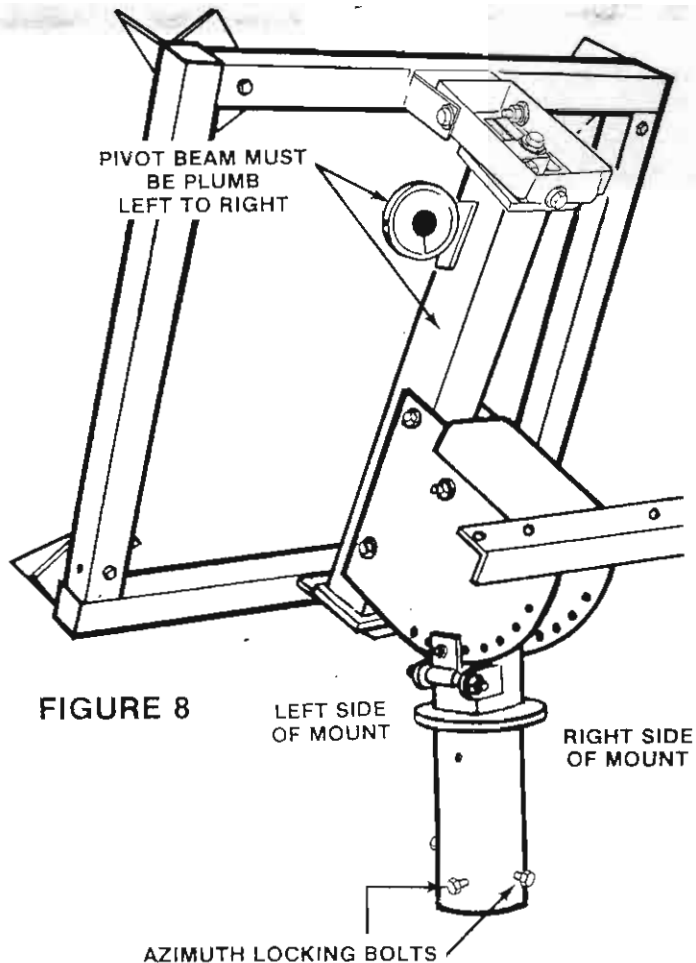

**FIGURE 7**
**STEP 7.** Attach polar jack unit between latitude head and backup assembly as shown in figure 7.